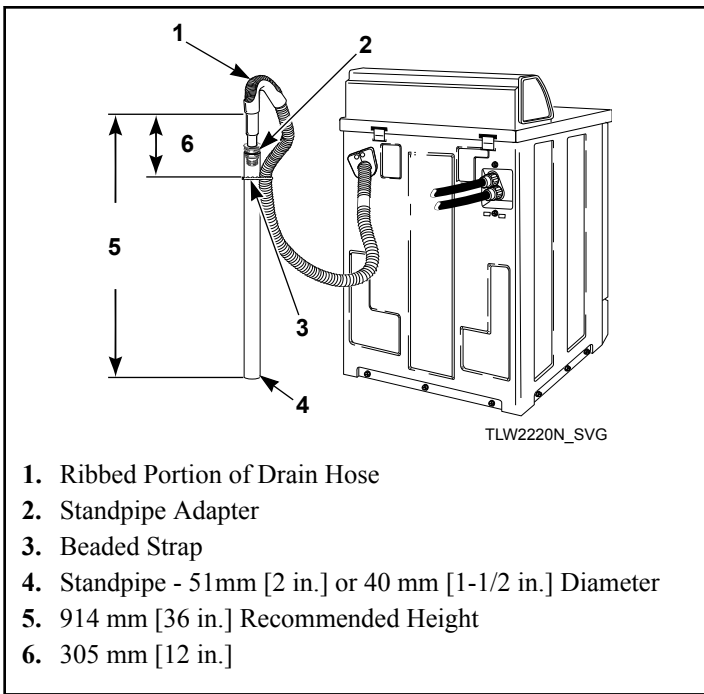

Figure 6
3. Remove the beaded strap from accessories bag and place around standpipe and drain hose, approximately 300 mm [12 inches] down from the top of pipe. Refer to *Figure 6*.